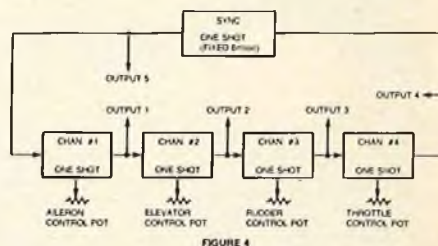
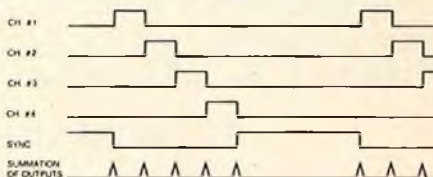

FIGURE 4
FIGURE 5
(2) If a trigger is applied, that is the input voltage rises from  $V_1$  to  $V_2$  past some threshold, the output goes to Voltage  $V_2$  and remains there for time  $T_1$  and then returns to voltage  $V_1$  until it is triggered again. This is called the quasi-stable stage. The fall of the trigger voltage from  $V_2$  to  $V_1$  has no effect. The time  $T_1$  is determined by certain components in the circuit, but can be varied by the control pot. In RC circuits, the typical time varies from one to two milliseconds for plus and minus thirty degrees of pot rotation. The ring counter looks like Figure 4. The output of each one shot, triggers the succeeding one shot around and around the ring every twelve milliseconds or so. The timing can best be shown in chart form. See Figure 5.